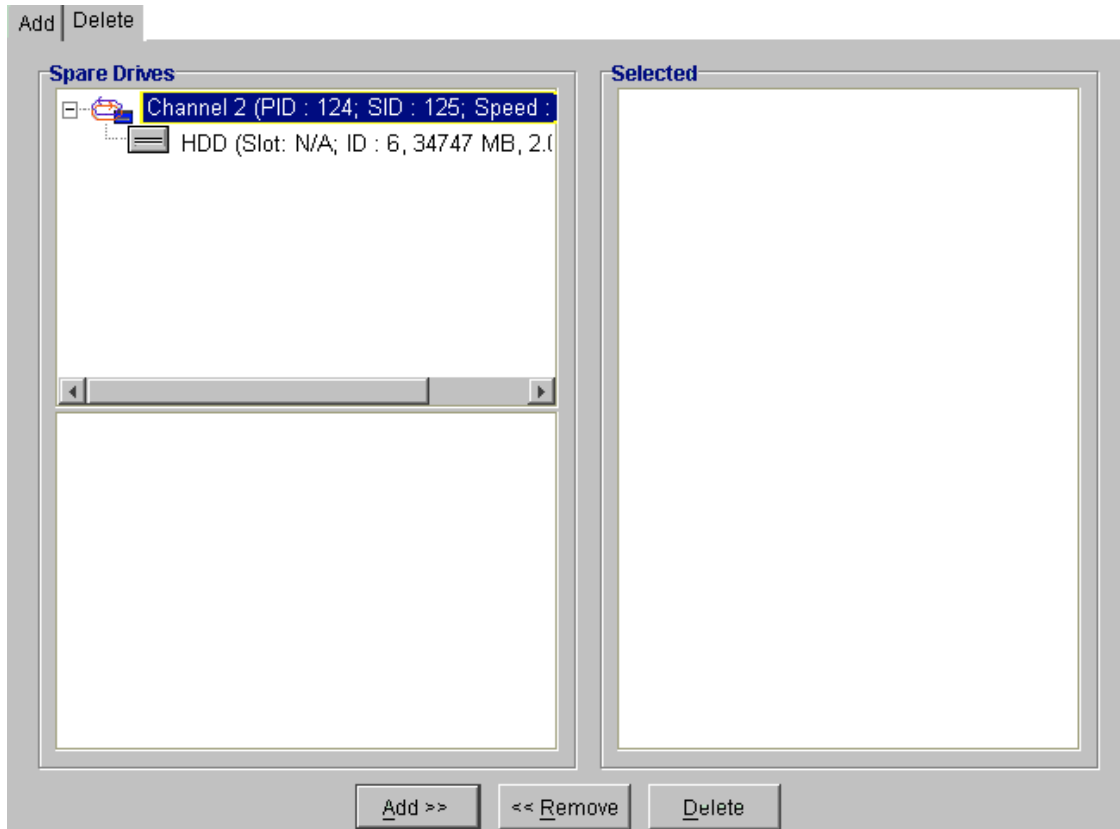

Figure 8-28: Spare Drive Management Window
Step 1. After the “*Spare*” tab has been selected the “*Spare Drive Management*” window shown in *Figure 8-28* will appear in the content panel. Under the **Add** tab, if there are drives available to assign as spares, their channels will be listed under **Available**. Choose the drive icon for the drive that will become the new spare.
Step 2. Click the **Add** button in *Figure 8-28*, then click either **Local** or **Global**. Local spares will only replace failed drives in the same logical drive. Global spares will replace any drive that fails in any logical drive on the RAID controller.
Step 1. Access the ‘*Spare Drive Management*’ window shown in *Figure 8-28*.